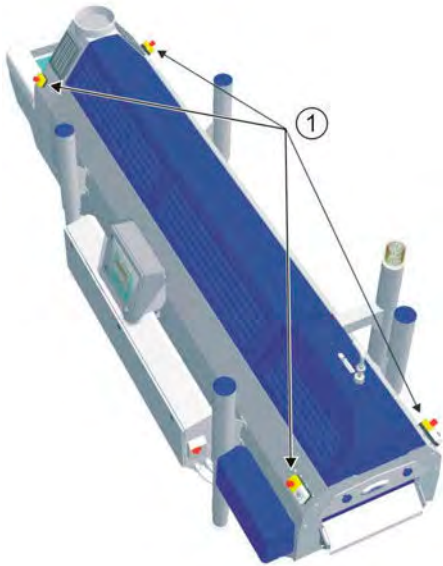

fig. 3-11, position of the EMERGENCY STOP SWITCHES
- EMERGENCY STOP SWITCHES (4x) (fig. 3-11, 1), at the product entry and exit area (left and right). All EMERGENCY STOP SWITCHES are linked to an EMERGENCY STOP relay